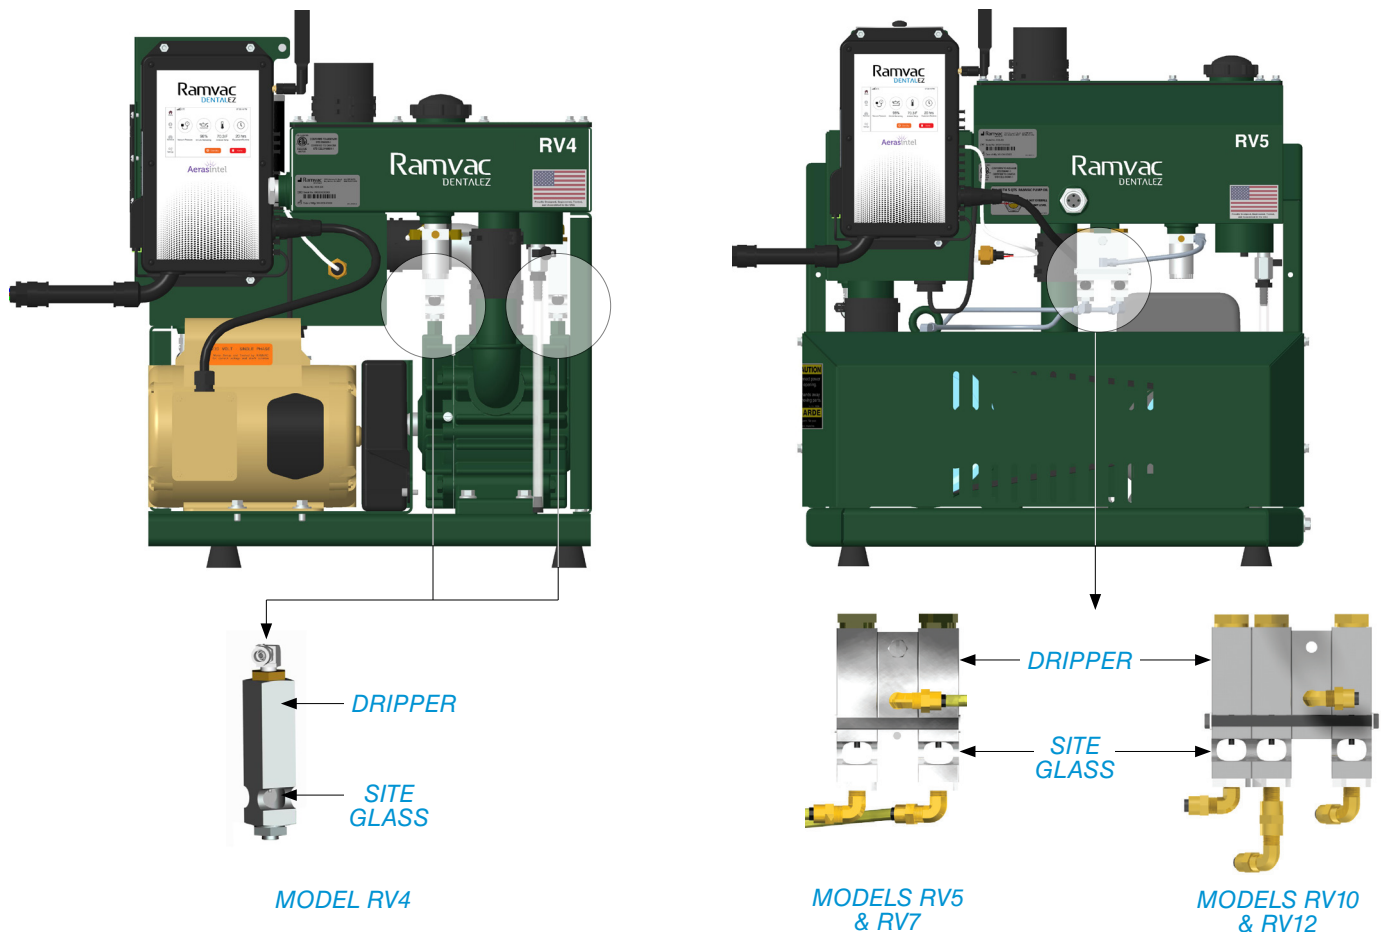

FIGURE 44. COUNT OIL DROPS AT SITE GLASS
2. Look through the sight glass on the bottom of the drippers for drips of oil (FIGURE 44).